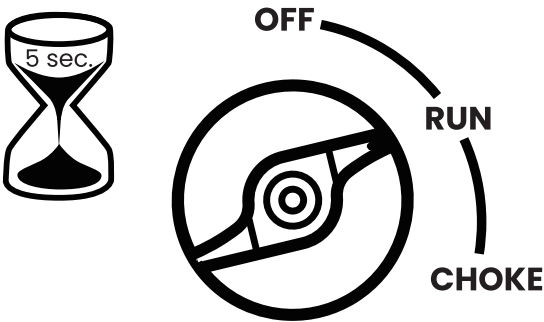

Figure 8: Turn Engine/Fuel Switch to RUN
4. As the engine starts and stabilizes, turn the choke switch back in to the RUN position (see Figure 8).